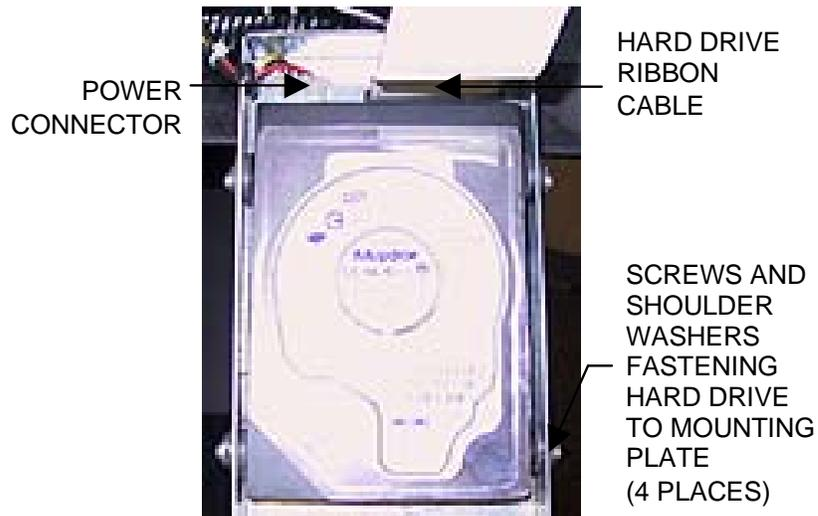

FIGURE 4 - BLUE MAXX/MAXX CLASSIC - CLOSEUP OF HARD DRIVE
4. Remove the 4 screws and shoulder washers fastening the hard drive to the mounting plate and remove the hard drive. See Figure 4.
2. Fasten the hard drive to the mounting plate with the 4 screws and shoulder washers. See Figure 4.